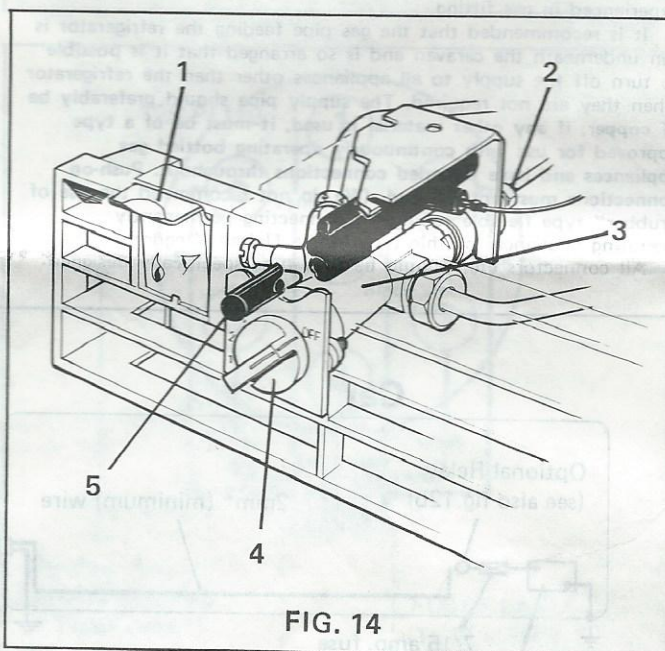
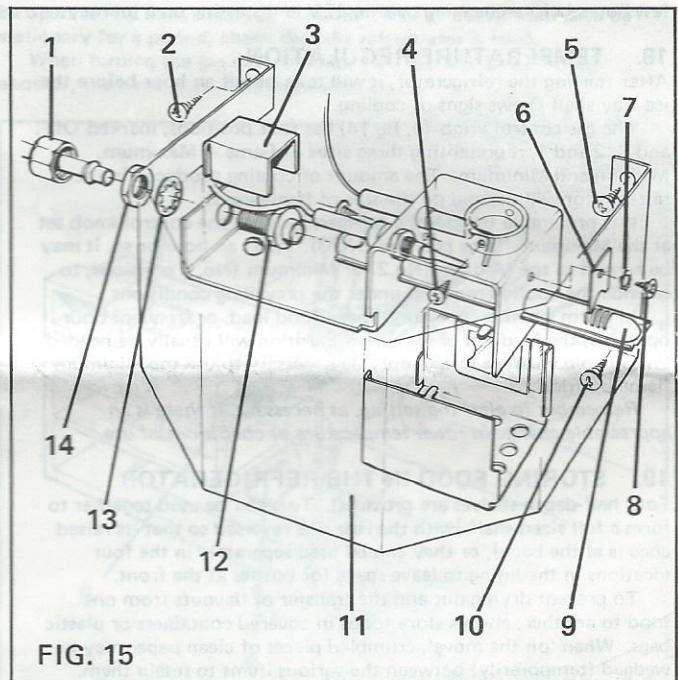

FIG. 14
FIG. 15
16. STARTING THE REFRIGERATOR (see fig.14)
The gas control knob (4, fig.14) has four positions, marked 'Off', and 3, 2 and 1, representing three sizes of flame — Maximum, Medium and Minimum. The amount of cooling produced in the refrigerator will depend on the size of flame used.
When operating on gas, ice will be made more quickly if the control knob (4, fig.14) is temporarily turned to the Maximum flame position, (No.3).
3. Remove burner shield (11, fig.15) by taking out the three screws (2, 5, and 10).
4. Remove screw (8), washer (7) and locking plate (6), and withdraw burner barrel (9) from end of burner box. Clean burner barrel of any deposits.
5. Unscrew gas pipe union (1) and disengage gas pipe from jet (12).
6. Holding cover (3) and jet (12), which will become loose, unscrew locknut (14) and remove washer (13). The cover (3) and jet (12) can then be removed and cleaned by washing in white spirit then blowing through the jet with air (using a foot pump for instance). **Do not use a probe of any sort—the orifice in the jet is extremely small and can easily be damaged if mishandled.**
7. Remove screw (4) and carefully ease the burner box assembly away from bottom of boiler. Examine and clean all traces of soot and other deposits from the burner box, making sure the aeration holes in the bottom are perfectly clear.
9. Reassemble in the reverse order, making certain that the burner barrel is replaced with the slots in the closed end facing the boiler tube. See that gas unions are tight, but not overtight. The small union (2, fig.14) connecting thermocouple to flame failure device must be done up firmly, but do not overtighten.
10. Replace the flue baffle in the central tube of the boiler and re-install refrigerator, (see "Checking for Gas Leaks", item 26). Light burner and test.